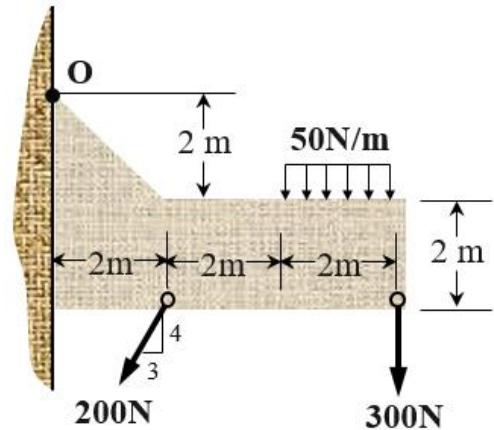

Figure 2
2. Replace the force and couple system shown in figure 2 by an equivalent resultant force and **couple moment acting at point O**. Indicate the magnitude and direction of the resultant force and couple moment. (15')